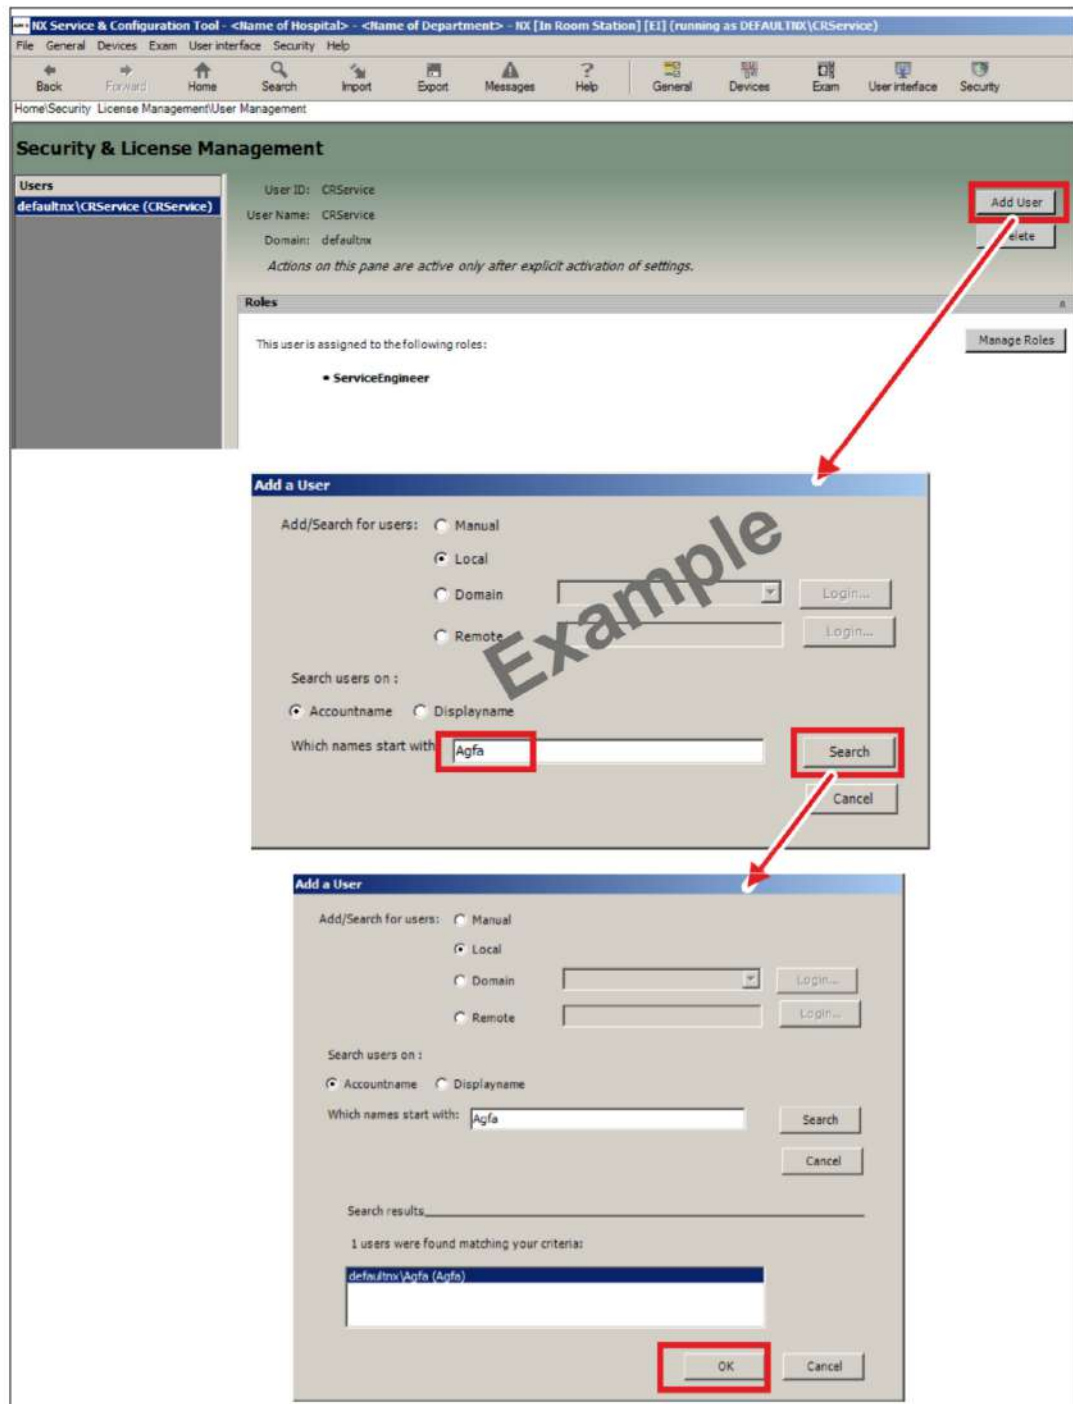
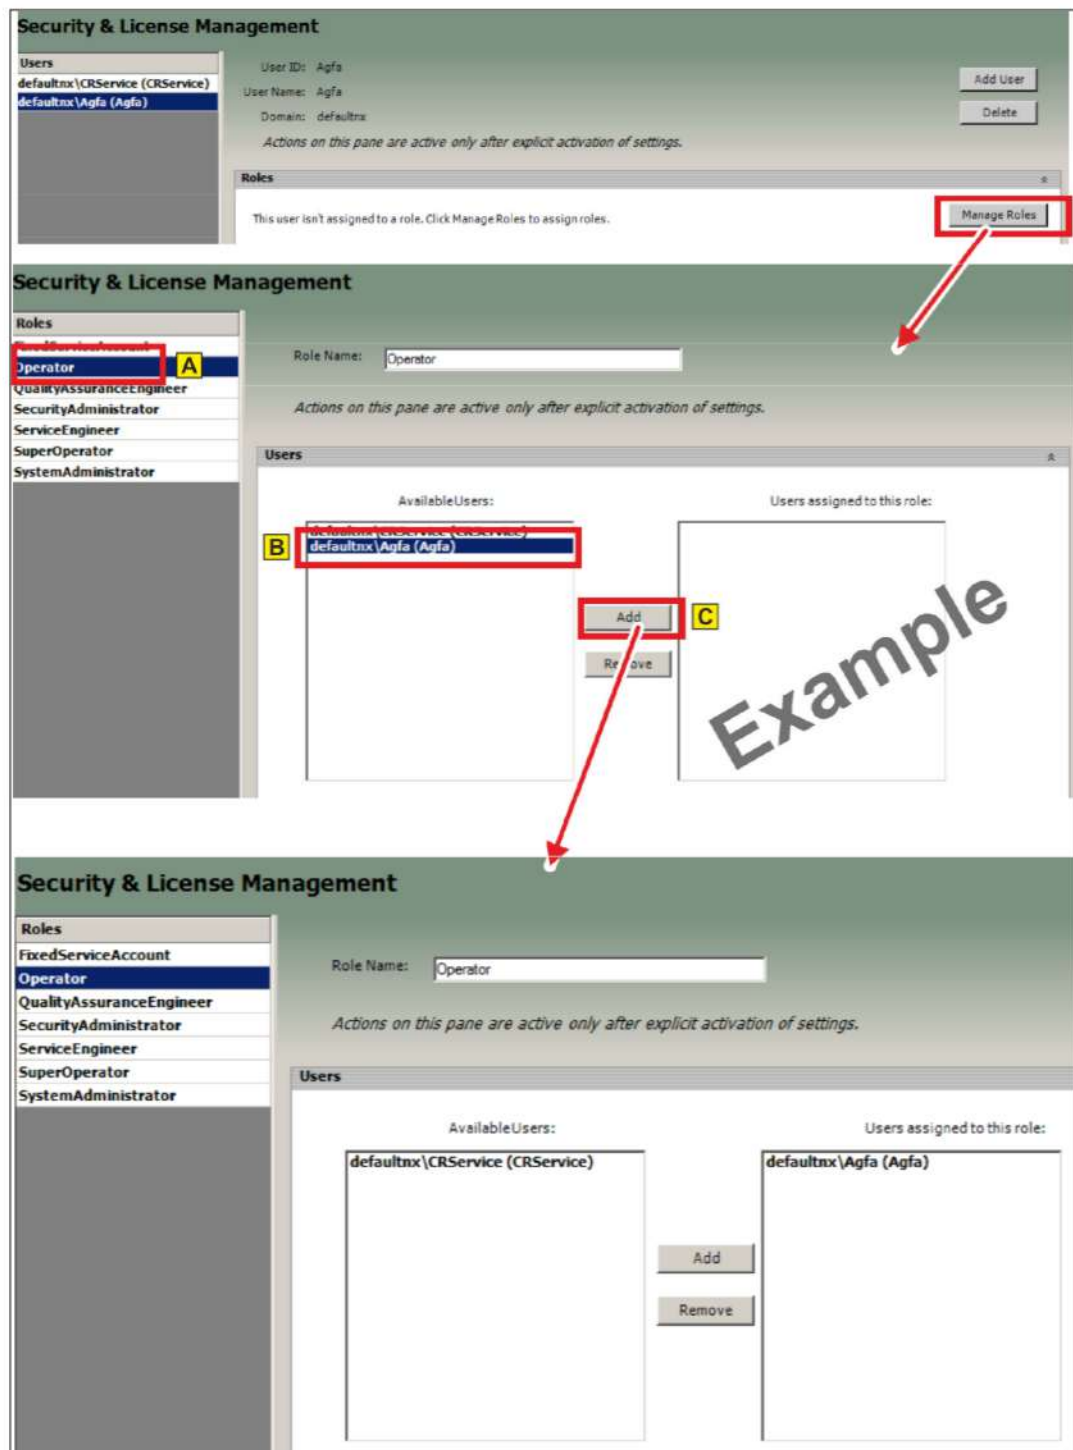

Figure 7
Figure 8
- (2) Start the NX Configurator (via Desktop Shortcut).
- (3) Select: **<Load active configuration>**
- (4) Select: **Security > Manage Users > Add User**
- (5) Add NX users and roles. For an example see Figure 7 and Figure 8.